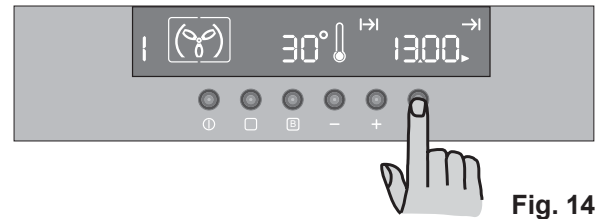

Fig. 14
- 2) Press button  until the "End of Cooking" function  will be selected and the relevant symbol will flash. The control panel will display the end of cooking time (that is, the actual time + cooking duration time - Fig. 14).